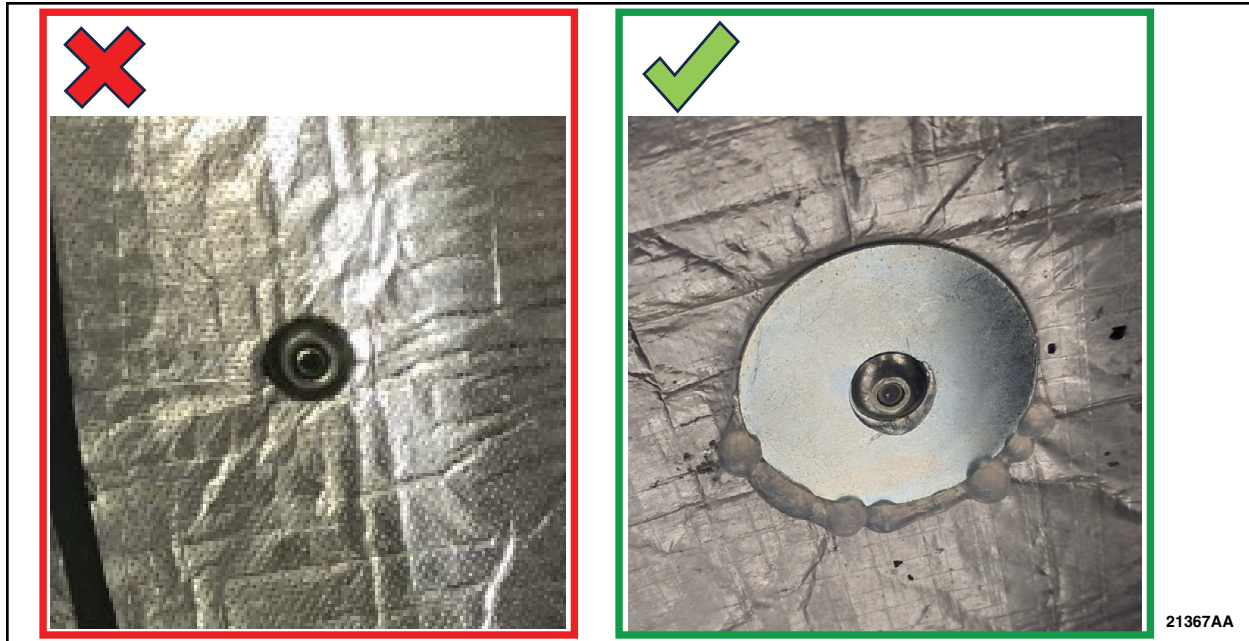

**FIGURE 17**
18. Apply a thick layer of seam sealer to the rivet, and the backside of the washer. See Figure 17.